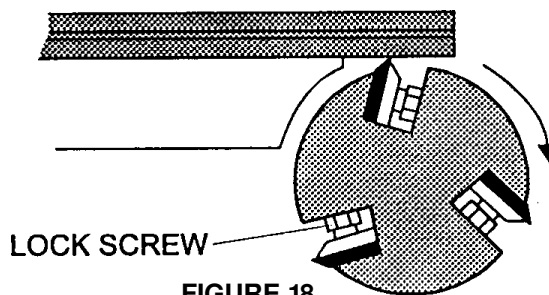

FIGURE 18
1. Place a steel straightedge on outfeed table and extend it over the cutterhead as shown in Figure 18.
2. Rotate the cutterhead by hand. If a knife is too low or too high at either end, lightly loosen the two lock screws in the knife, as shown in Figure 18. Move the knife until it barely scrapes the straightedge, and tighten the lock screws securely. Make sure each knife does not extend more than .015 inches beyond the cutterhead.